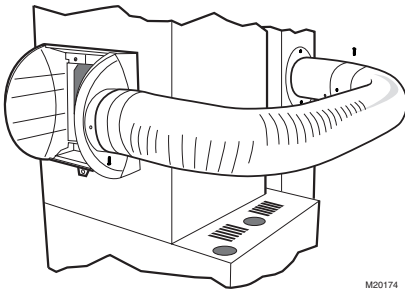

Fig. 7. Connecting bypass ducting.
13. Using sheet metal screws, connect starter collar to the duct and bypass duct from humidifier to starter collar. Be sure to secure the collar to the duct with sheet metal screws. See Fig. 7.